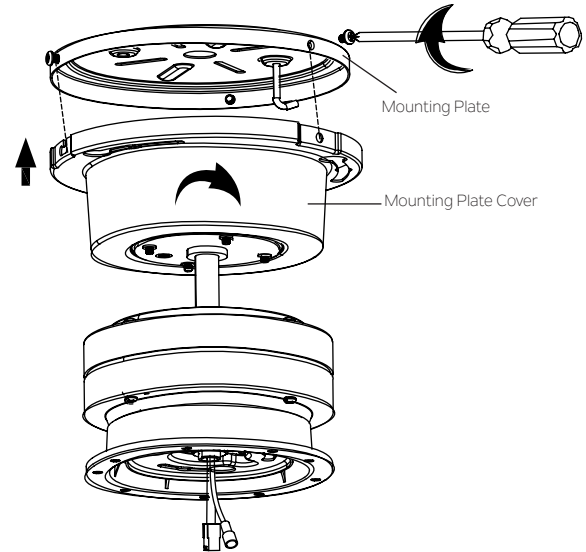

Fig. 11
Step 2. Release the motor assembly from the J hook, raise the motor assembly up to the mounting plate, align the slot holes on the mounting plate cover with two loosened screws on the mounting plate. Rotate the mounting plate cover until two loosened screws lock in place at the narrow end of key holes. Re-install the screw removed on step 1, tighten three screws securely. (Fig. 11)